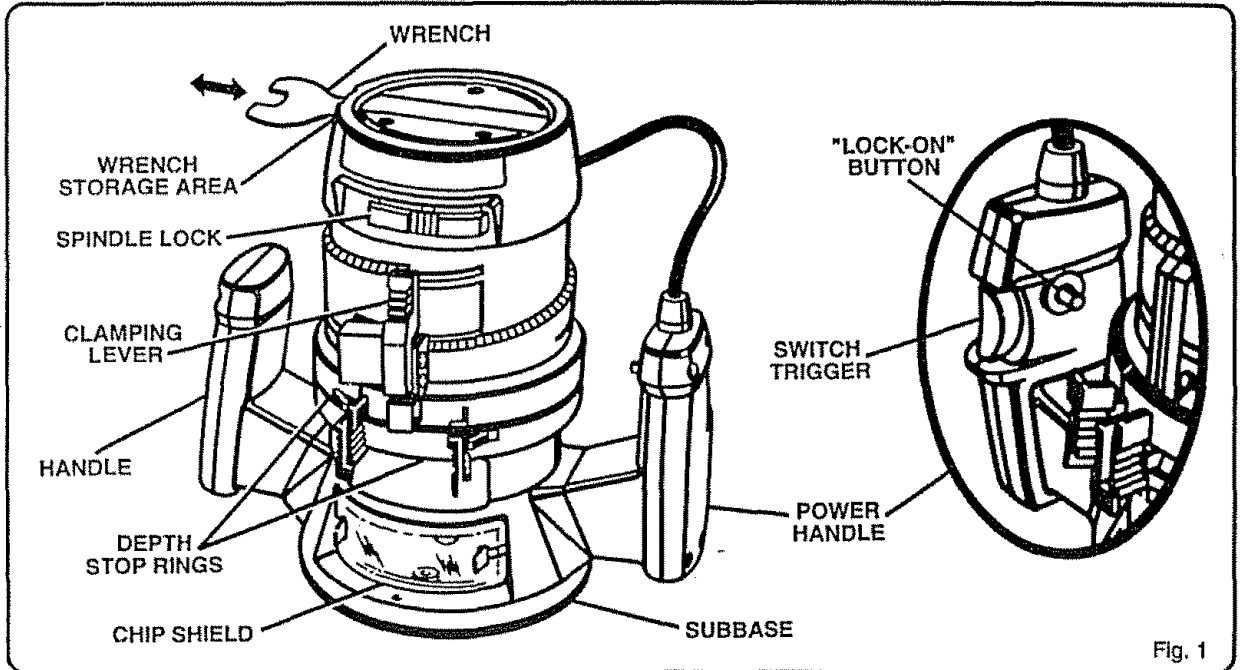

Fig. 1
Before attempting to use your router, familiarize yourself with all operating features and safety requirements. See Figure 1.
A clear plastic chip shield is installed on the front of your router for protection against flying dust and chips. The shield is designed to fit the front opening of the router base. See Figure 1. If necessary to remove chip shield, squeeze the tabs on each end and pull outward. To replace, squeeze the tabs at each end, fit into the opening, then release. **FOR YOUR PROTECTION DO NOT USE ROUTER WITHOUT CHIP SHIELD PROPERLY IN PLACE.**
The switch of your router is equipped with a "lock-on" feature which is convenient when operating for extended periods of time. To lock on, depress the trigger, push in the lock button located on the side of the handle, then while holding the lock button pushed in, release the trigger. To release the lock, depress the trigger and release it. See Figure 1.
Your router has a wrench storage area located on the top end cap portion of the motor housing. When installing or removing cutters remove the wrench from its storage area. Proper storage of wrench when not in use will help reduce the possibility of losing wrench. See Figure 1.
2. A spindle lock is located on the front of the motor housing. See Figure 1. To activate lock, push spindle lock in and slide into lock position.